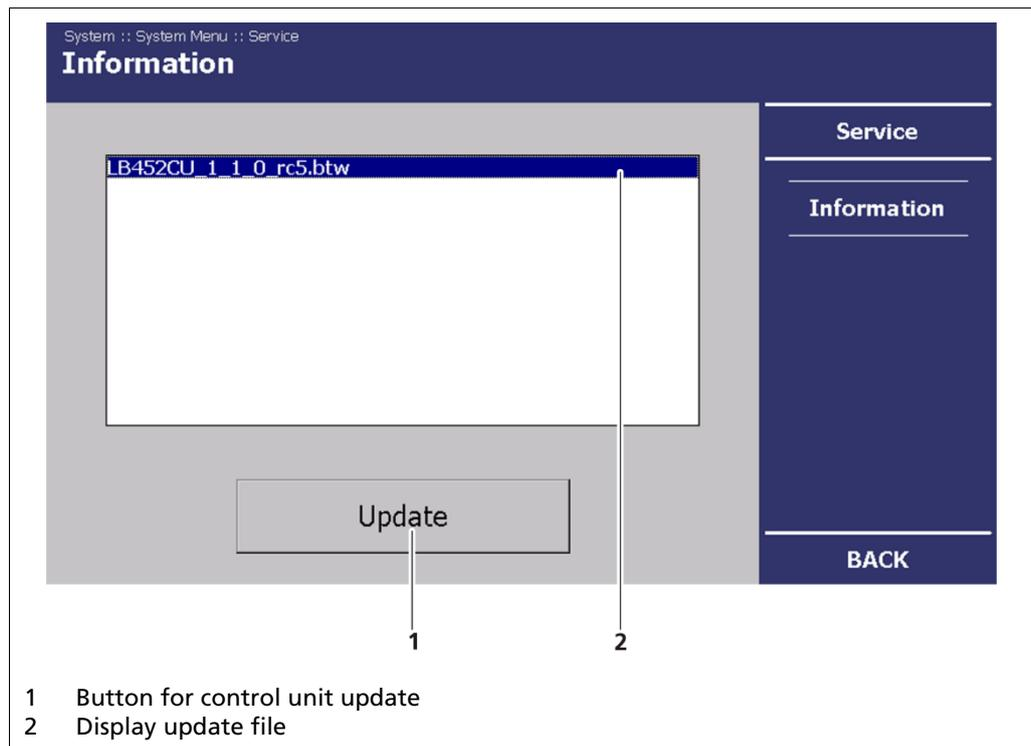

Fig. 43 System Menu, Service - Information (Control unit update)
4. Select the appropriate update file (Fig. 43, Item 2).
5. Click on <Update> (Fig. 43, Item 1).